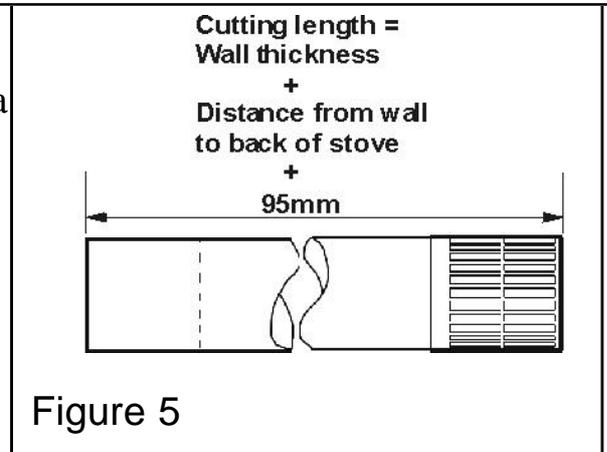

Figure 5
- Mark the flue at this total distance measured from the terminal end. See figure 5.